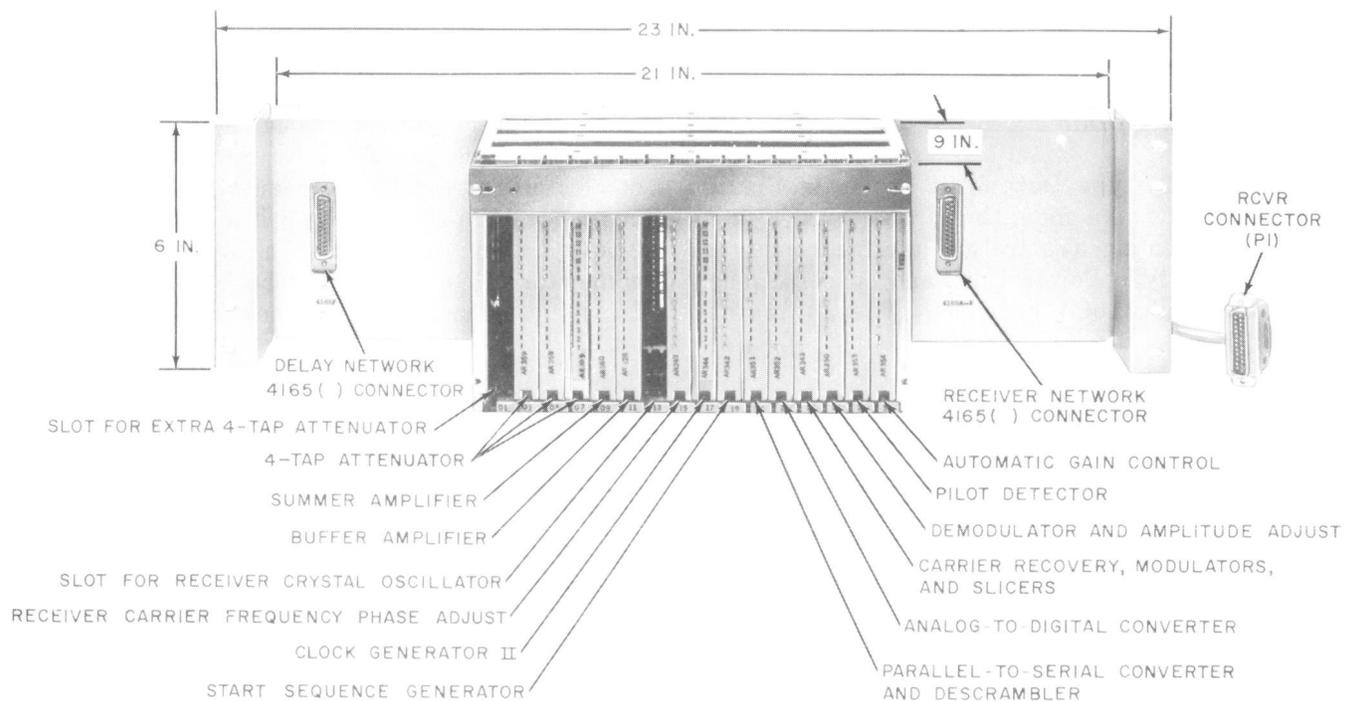

Fig. 6—A Typical 23A-Type Data Unit (Receiver) Without Optional Circuit Packs and Networks
**1.20** The 23A-type Data Unit shown in Fig. 6 consists of a mounting frame with a 59C apparatus mounting and space to plug in two 4165-type networks. The apparatus mounting is always equipped with 14 circuit packs and has
provision for two optional circuit packs. It is wired with a 25-pin plug on the end of a 15-inch cord for connection to the 24A-type Data Unit. The 23A-type Data Unit, when fully equipped with the optional circuit packs and networks and plugged into the 24A-type Data Unit, provides the receiver function for Data Sets 203A- and 203C-type. The mounting brackets shown attached to the frame in Fig. 6 are not provided with the data unit but are supplied with the data set. Refer to Fig. 2 and 4 for a view of a fully equipped 23A-type Data Unit. The approximate overall dimensions are 21 inches